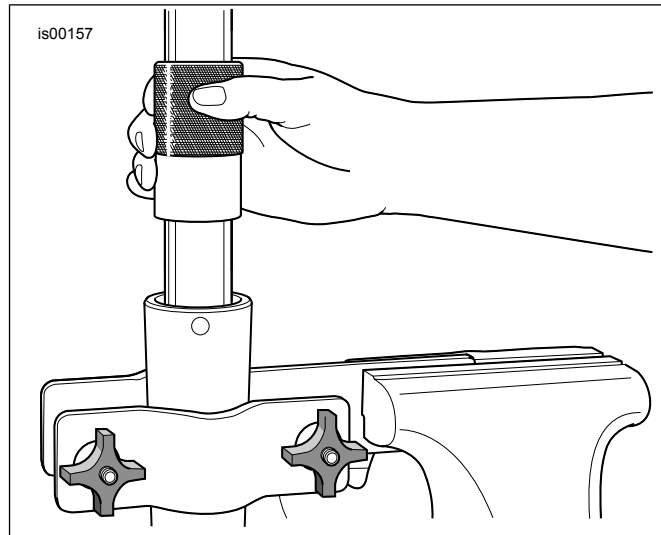

Figure 4. Install Fork Oil Seal
1. Slide dust cover (13), dust seal (4), oil seal (10) (lettering side down), oil seal spacer (15) (concave side up) and lower bushing (9) over the tube of the fork tube assembly (12) for later installation.
2. Install upper bushing (7) in the groove of fork tube assembly (12). Expand bushing only wide enough to fit over the tube.
3. Install the fork tube assembly (12) into the outer fork tube (5).
4. See Figure 4. Install bushing, spacer and seal into slider bore by tapping components upward with the FORK SEAL BUSHING TOOL (B-42571).
5. Install internal retaining ring (3) into groove in bottom of the outer fork tube.
6. Install dust seal (4) and dust cover (13).
7. Insert cartridge assembly (1) into fork tube bore.
8. Install the screw and washer (14) into the bottom of the fork tube assembly (12). Move the slider tube through its full range of travel within the slider several times to verify proper component alignment. Then, apply downward force on the cartridge assembly and tighten the screw. Tighten screw to 15–25 N·m (12–18 ft-lbs).
9. Insert preload spacer (16) over cartridge in the fork tube bore.